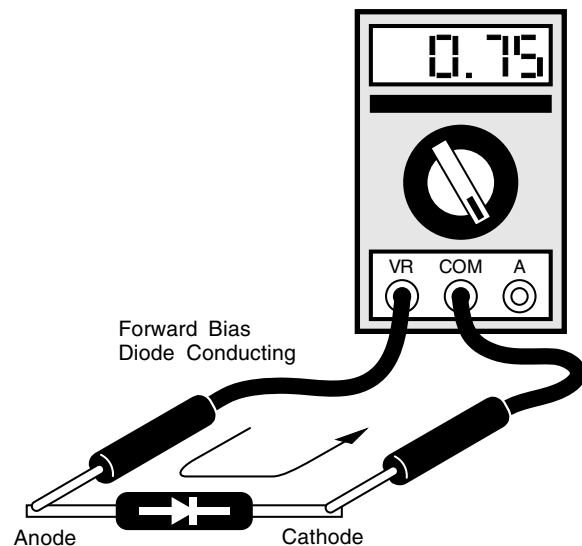

Figure 10-1: Forward bias diode test
5. To check the diode in the forward bias direction, connect the volt/ohm meter positive lead to the anode (positive, +) of the diode and the negative lead to the cathode (negative, -) of the diode (refer to Figure 10-1). A properly functioning diode will conduct in the forward bias direction, and will indicate between 0.3 and 0.9 volts.
6. To check the diode in the reverse bias direction, reverse the meter leads (refer to Figure 10-1). A properly functioning diode will block current flow in the reverse bias direction, and depending on the meter function, will indicate an open or "OL".